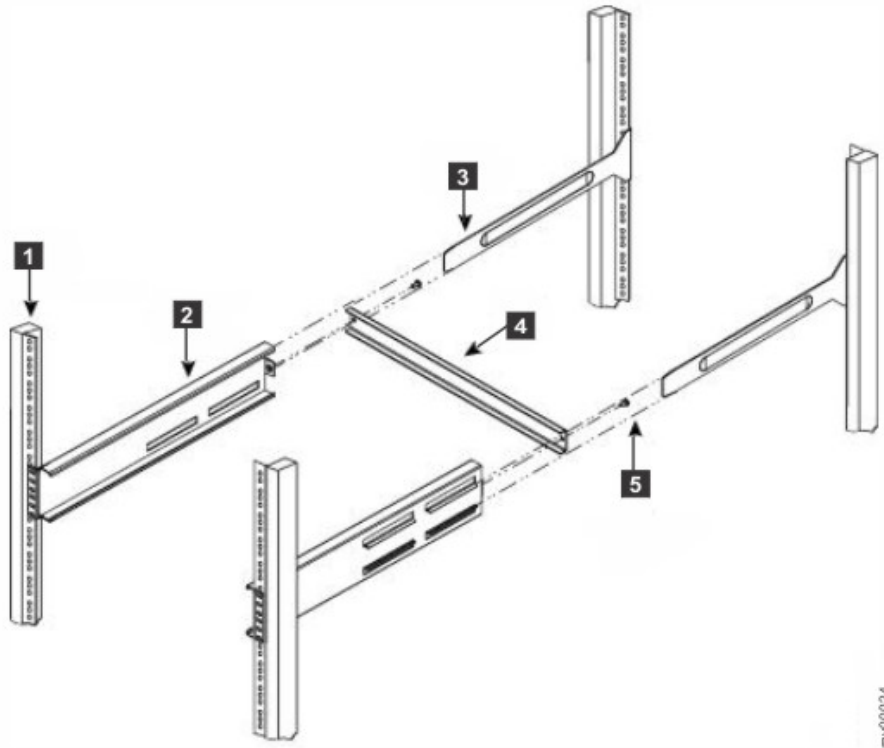

Figure 12. Installing the Shelf Bracket Kit into an EIA Rack
1. Position a shelf bracket inside the rack-mounting posts, as shown in Figure 12. Align the screw holes at the front of the shelf bracket with the holes in the front rack-mounting post. Then, attach the shelf bracket to the front rack-mounting post using a minimum of four 12-24 or 10-24 screws.
4. Attach the crossbar to the shelf brackets, as shown in Figure 12, using the 10-32 screws.
5. Insert the slider posts into the shelf brackets, as shown in Figure 12. Attach them to the rear rack-mounting posts, using a minimum of four 12-24 or 10-24 screws.